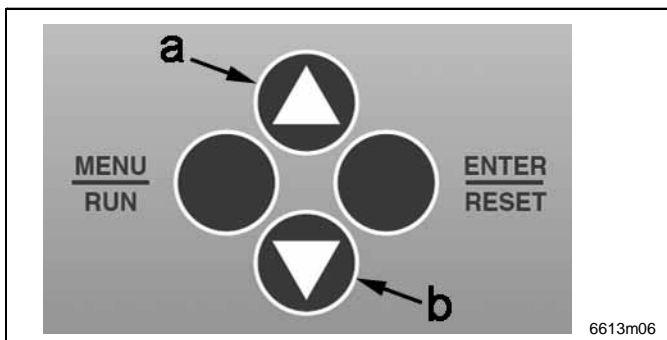

Fig. 15 Operating panel
As soon as you press the "UP" key (pos. a, Fig. 15) outside of the configuration mode, the actual rest of the expired pause time is shown in the display.
The version number setting (0 - 4) is shown in the LMC 1 display and is made using the UP & DOWN keys on the operating panel (see pos. a & b, Fig. 15).
- Complete your selection (0 - 4) with the ENTER key (Fig. 15).